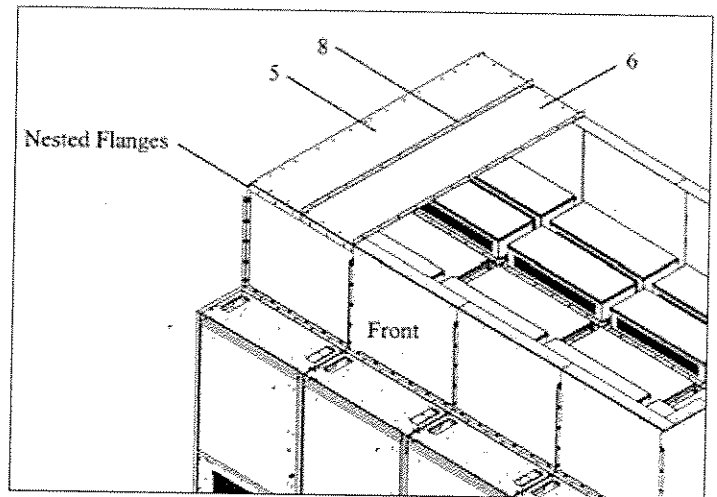
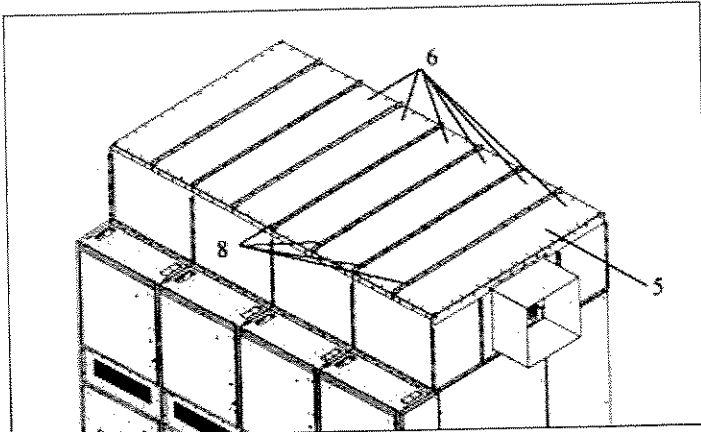

Figure 28. End Roof Panel Nested Inside the Roof Panel Flanges.
Figure 29. End Roof Panel Installed.
- Once all plenum walls are completed, insert a duct collar (12) through the wide vertical panel with opening (2). Secure the collar with the 0.25" self-tapping screws.
- Start at the left side of the switchgear roof. Place one end roof panel (5) down on the top flanges of the arc duct plenum wall. The edges of the vertical panels nest inside the roof panel flanges as shown in the Figure 28. Insert the 0.25" self-tapping screws around the vertical flanges of the roof panel to pull the vertical panels up against the roof piece.
- Place one middle roof panel (6) down on top of the plenum wall flanges and up against the roof panel previously assembled (see Figure 28). Insert the 0.25" self-tapping screws on the vertical flanges.
- Slip a horizontal seam cover (8) on the flanges of both roof panels. Secure the seam cover with the 0.25" self-tapping screws.
- Assemble the remaining middle roof panels (6) and horizontal seam covers (8) until reaching the other end of the switchgear where the end roof panel (5) is installed (see Figure 29).